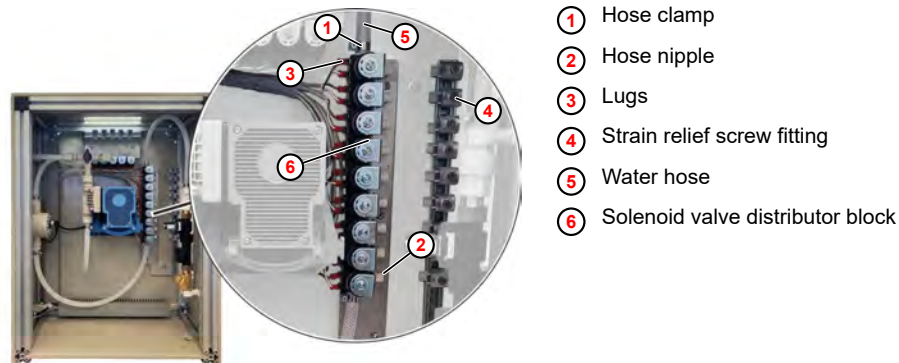

Fig. 13: Disconnecting the solenoid valve distributor block
- 15.** ▶ Install additional strain relief screw fittings ( Fig. 13 , ④ ) on the mounting rail.